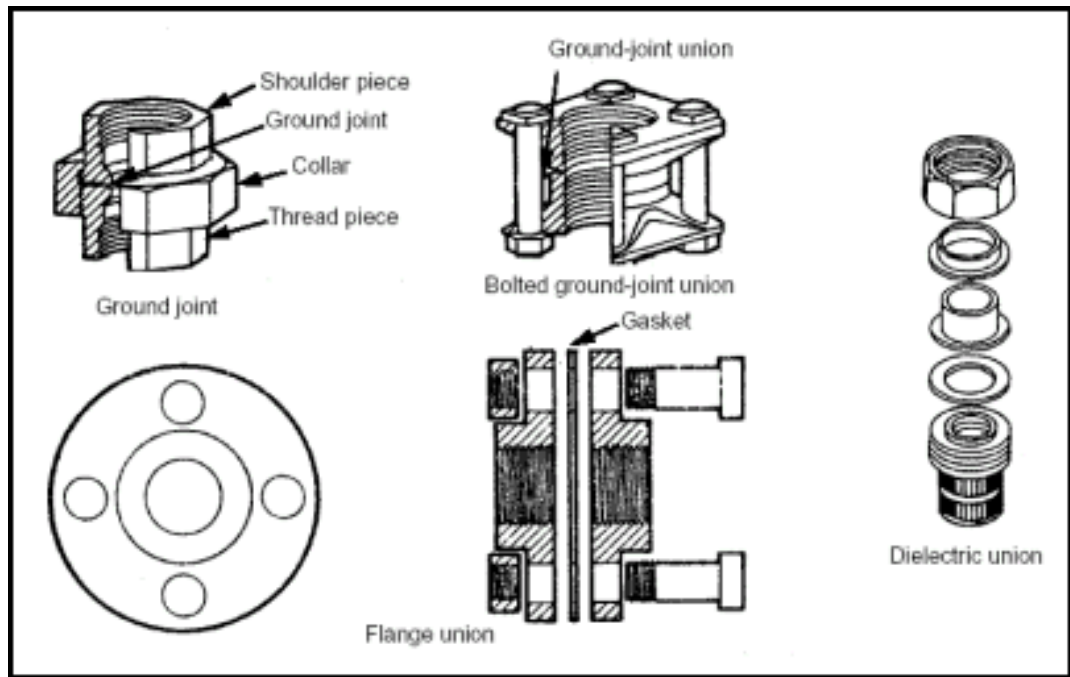

Figure 6-24. Unions
6-52. Unions (Figure 6-24) are used to join the ends of two pipes that can be turned or disconnected.
- **Flange.** The flange union has two parts, each with a female thread, that are screwed to the pipes to be joined. Nuts and bolts pull the flanges together. A gasket between the flanges makes a gastight and watertight joint. Plain-faced flanges are shown in Figure 6-24. They may have male and female faces or tongue and groove faces.